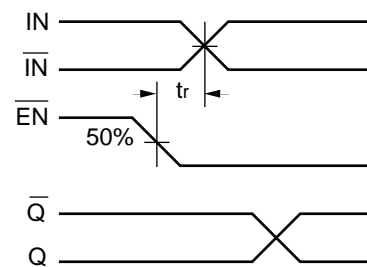

Figure 3. Release Time
- The release time is the minimum time that \overline{EN} must be de-asserted prior to the next IN/ \overline{IN} transition to ensure an output response that meets the specified IN to Q propagation delay and output transition times (see Figure 3).